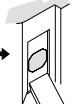

Figure 4d
- Chisel 1/8" (3mm) deep for Strike Plate or until flush (Figure 4d).